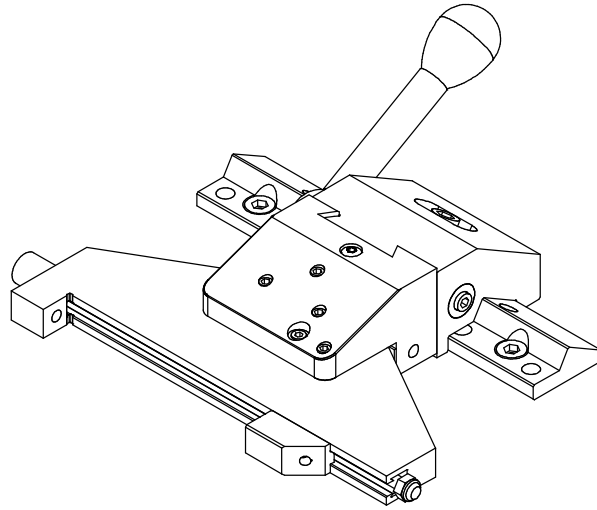

Figure 1
STEP 2. Insert the TD02/V08 assembly onto the MCD01 or PS01 (lower stage) on the truing station as shown in Fig. 1.